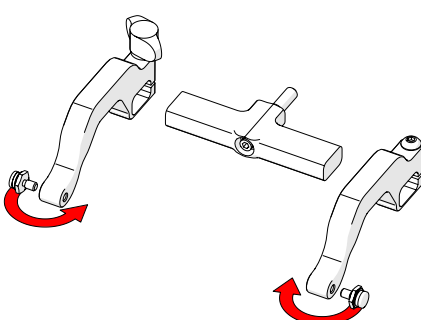

Fig. 166 - Position pivot buttons
5. Position the pivot buttons to the inside of the probe holder arms (Fig. 166).